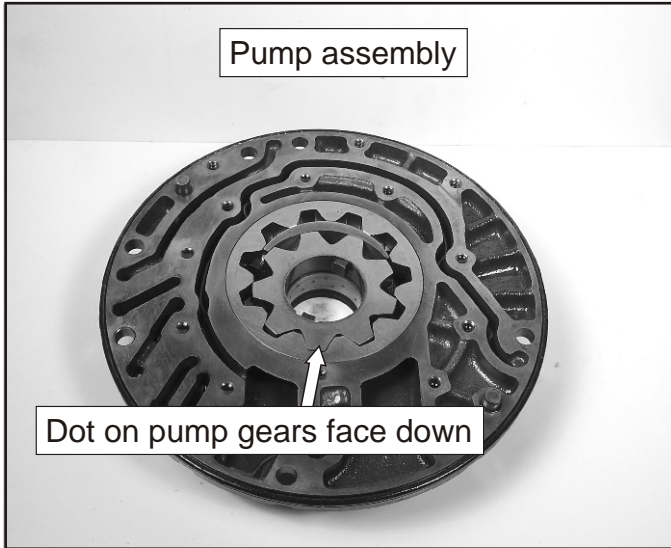

Figure 113
- 62. Assemble the pump gears into the pump body with the dot on the pump gears facing down, as shown in Figure 113. Lubricate the gears with a small amount of ATF.